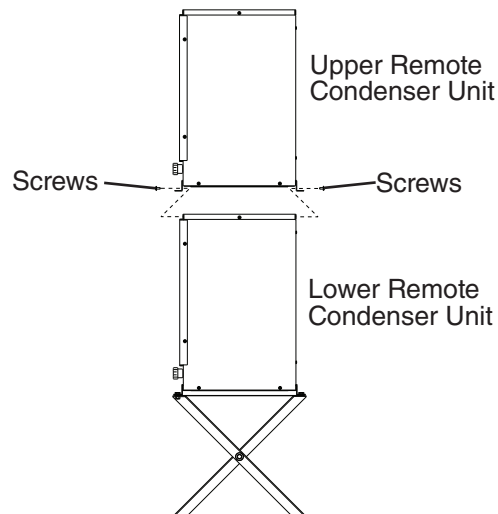

Fig. 23
- 2) Place the upper remote condenser unit on top of the lower remote condenser unit. See Fig. 23.